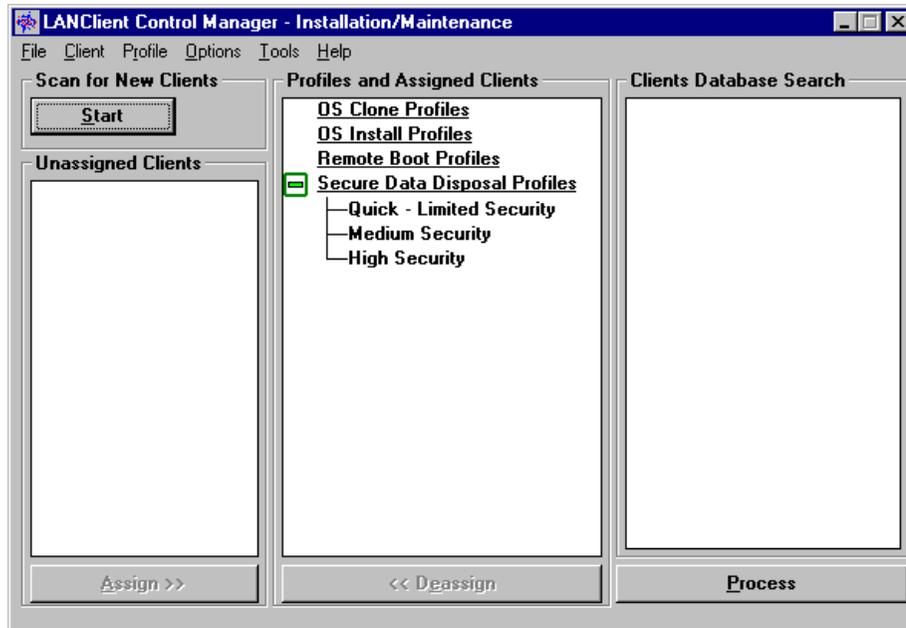

Figure 38. LCCM
8. Figure 38 on page 60 will reappear and you will see your clients now listed in the Unassigned Clients list.